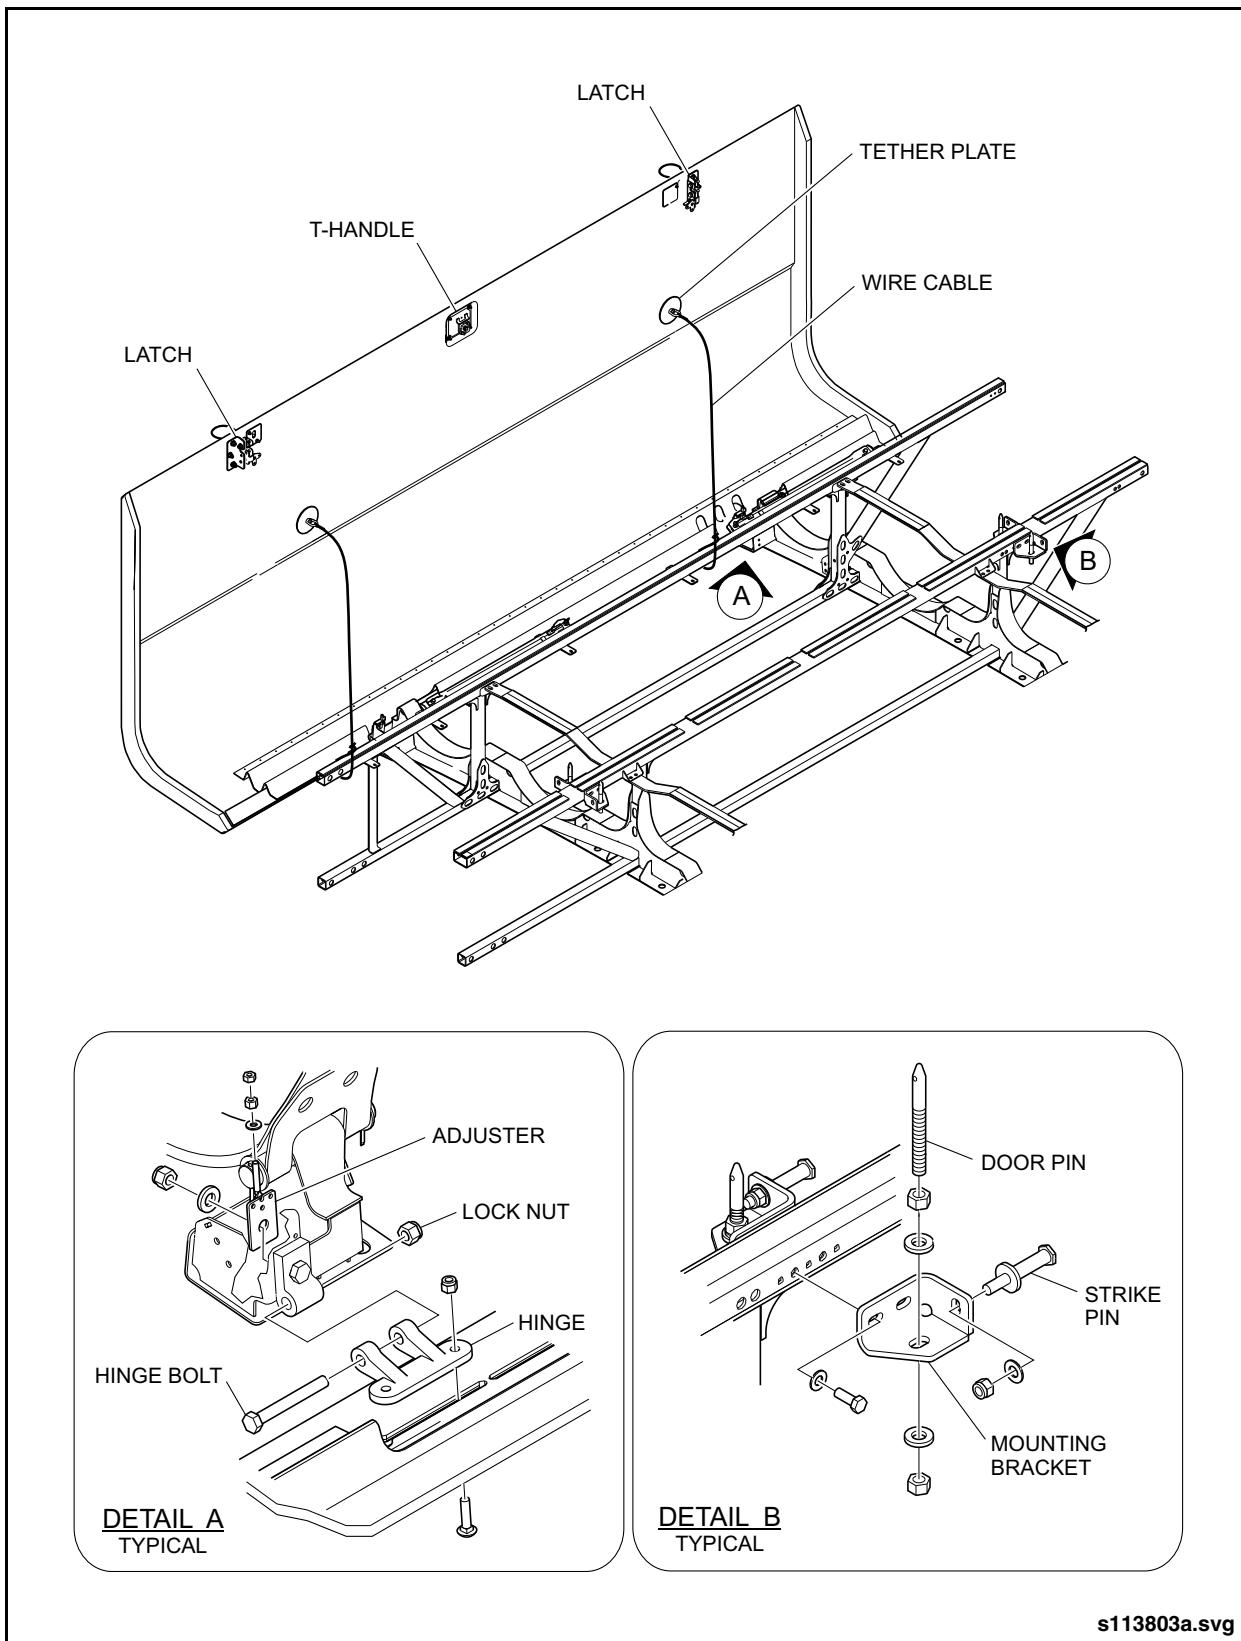

Fig. 15-8: CNG Tank Access Door Installation
1. Open the tank access door. Refer to 4.2. "Operation" on page 11 in this section for access door opening procedure. See "Fig. 15-8: CNG Tank Access Door Installation" on page 15.